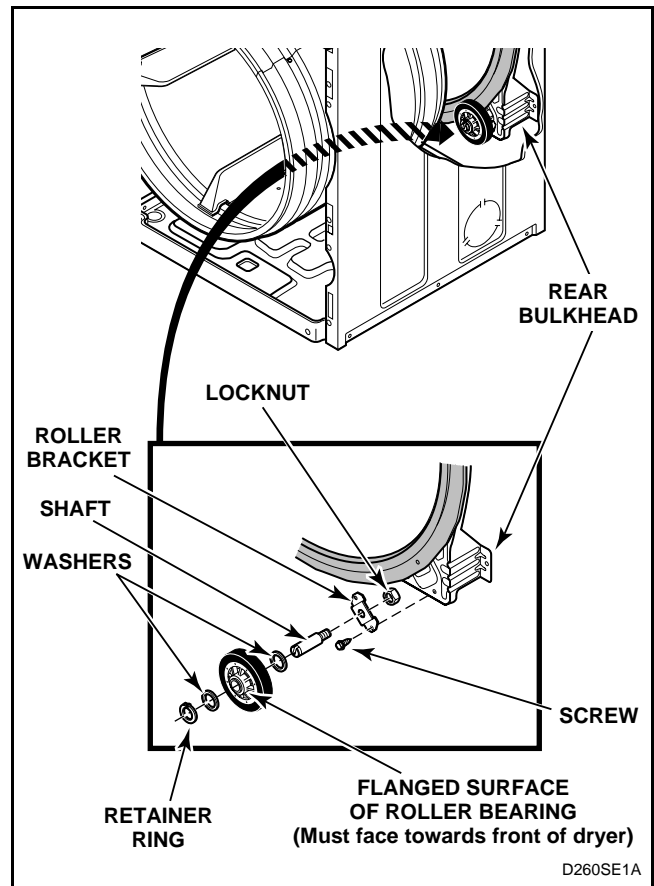

Figure 54
- Pull cylinder forward allowing rear of cylinder to drop down exposing rollers. See *Figure 54*.
- See *Figure 54* for removal of roller from bulkhead.